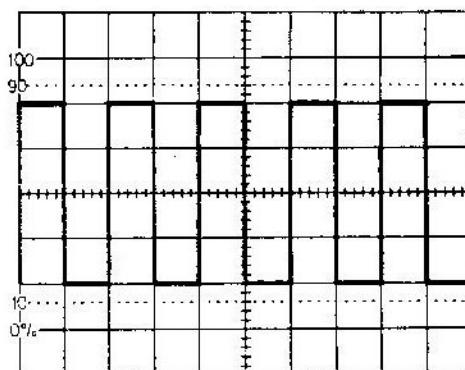

Fig. 5-1
4. Set the AC-GND-DC switch in the AC state. A waveform as shown in Fig. 5-1.